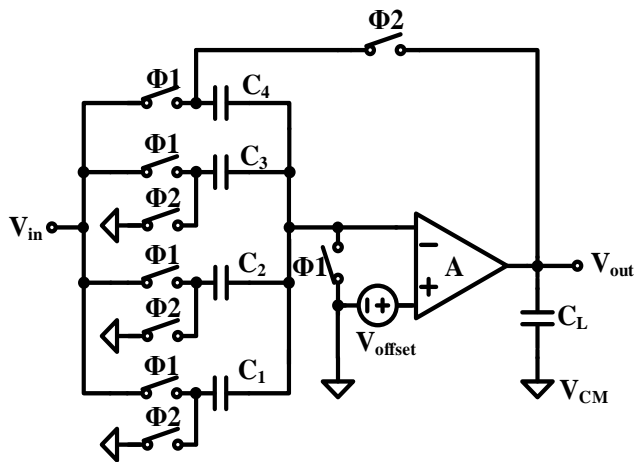
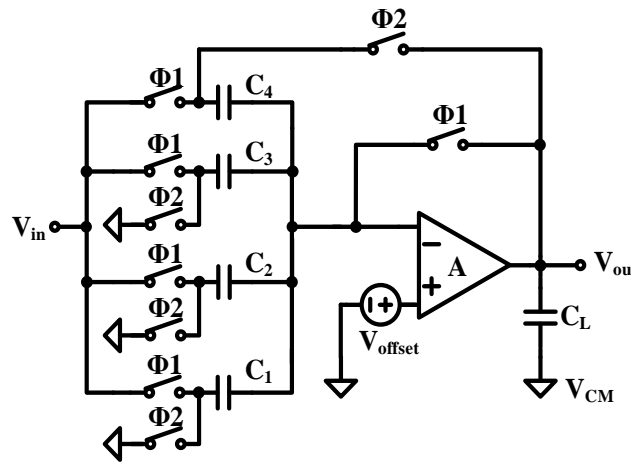

Fig. 1
Fig. 2
- 2. Please express the steady-state output (V_{out}) of the **multiplying-by-four gain amplifiers** (as shown in Fig. 1 & Fig. 2) in terms of A , C_1 , C_2 , C_3 , C_4 , V_{in} , V_{CM} , and V_{offset} , and explain the difference between Fig. 1 & Fig. 2.
- 3. Please design the **multiplying-by-four gain amplifiers** (as shown in Fig. 1 & Fig. 2) including two-stage OPAMP, bias circuit and non-overlapped clock circuit (as shown in Fig. 3). Then verify your design with Spectre/HSPICE. Assume $C_1=C_2=C_3=C_4=1\text{pF}$ and $C_L=1.5\text{pF}$